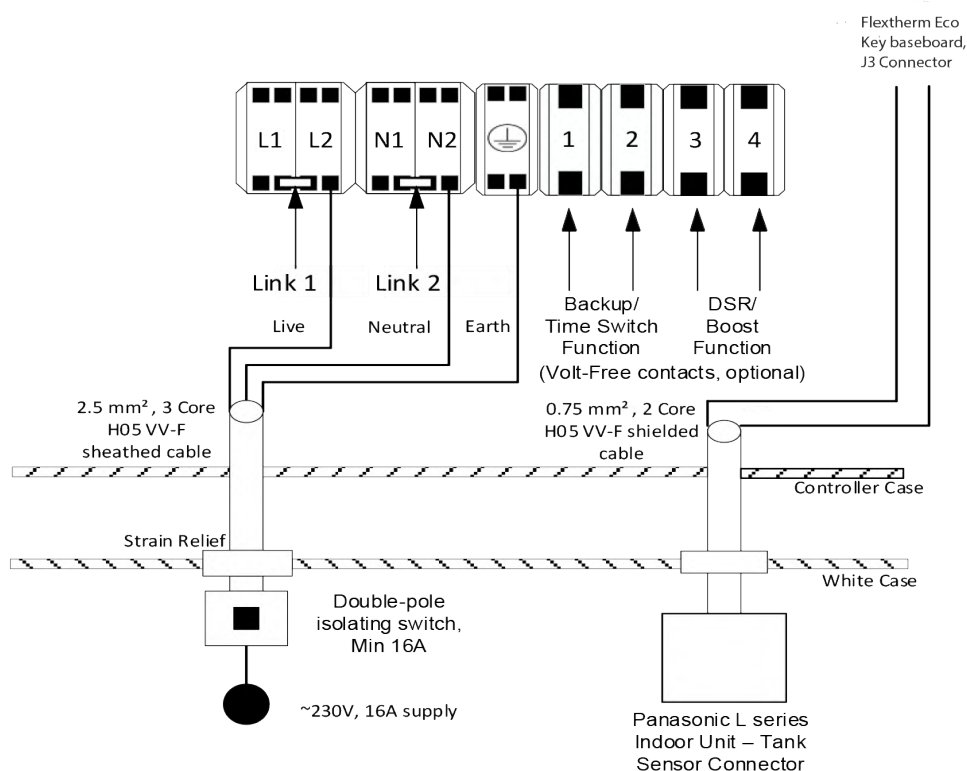

Figure 8: Flextherm Eco G2 D with Panasonic HP-Key
- Flextherm Eco G2 D with the «Panasonic HP-key» & «Panasonic HP+PV-key» (Flextherm Eco G2 D manual - Section 6.4.2 for wiring instructions & Figures 8 & 9 below)
Using a 2-core shielded cable 0.75mm², the cable will act as a hot water heating tank sensor from the Flextherm Eco Board - terminal J3 into the Heat Pump Indoor Unit controller PCB Terminal - (Tank Sensor) (please refer to HP installation manual). Please run the wire into the heat battery appliance via the appliance case cabling grommets and then into the control box housing through the hole available. Secure the cables in terminals J3 on the Flextherm Eco Board; please see Figures 8 & 9 below for reference.